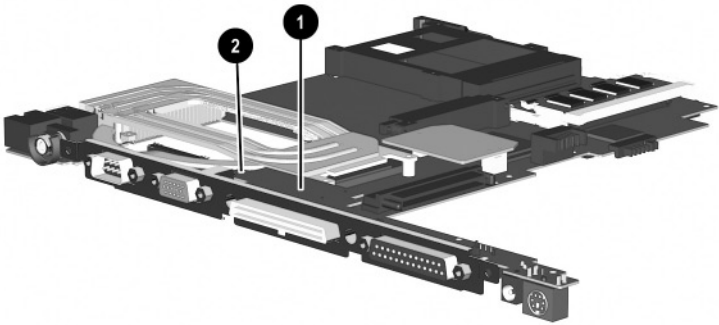

Figure 5-26. Proper Handling of the I/O Interface Board on an Evo Notebook N600c
Figure 5-26 applies only to Evo Notebook N600c models. When handling the system board, be careful not to put stress on the I/O interface board ❶. The narrow profile of this board makes it susceptible to being damaged when mishandled. Do not remove the screw ❷ that secures the I/O interface board to the system board or attempt to remove the I/O interface board. The system board should only be removed and handled using the Media Bay connector, as illustrated in Figure 5-26.